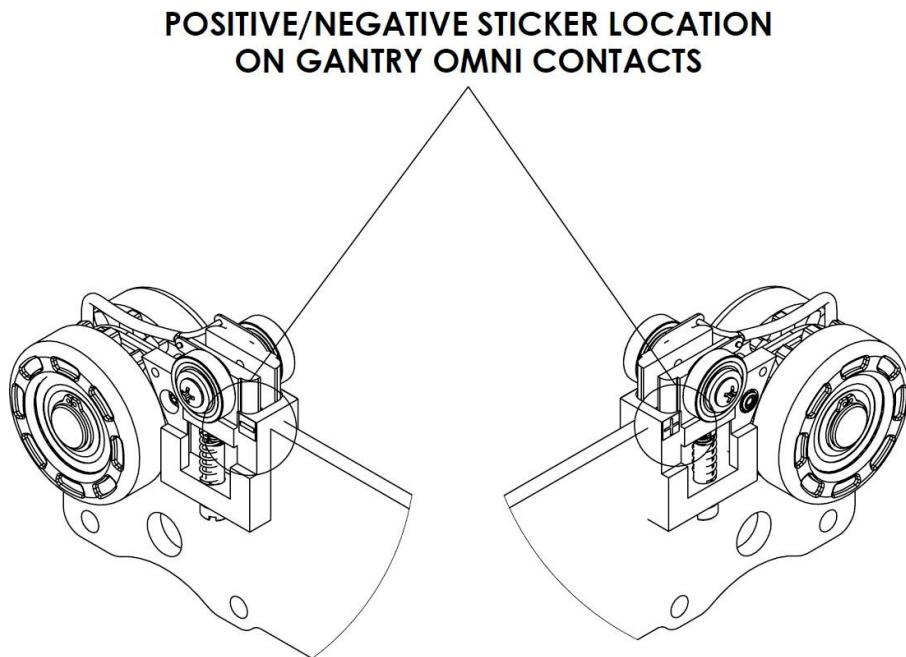

Figure 28: X/Y Gantry Trolley Contacts Positive and Negative Orientation
- Notate the positive and negative orientation on top of the X/Y gantry trolley contacts (Figure 28).